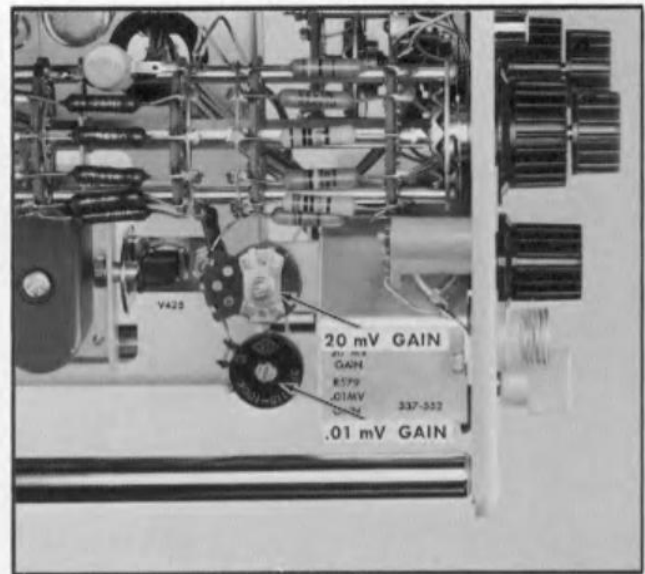

Fig. 6-17. Location of .01 mV GAIN and 20 mV GAIN controls.
- o. Adjust the Type 2A61 .01 mV GAIN control Fig. 6-17, for 4 divisions of display on the Type 561A CRT.
- u. Adjust the Type 2A61 20 mV GAIN control, Fig. 6-17, for 4 divisions of display on the Type 561A CRT.